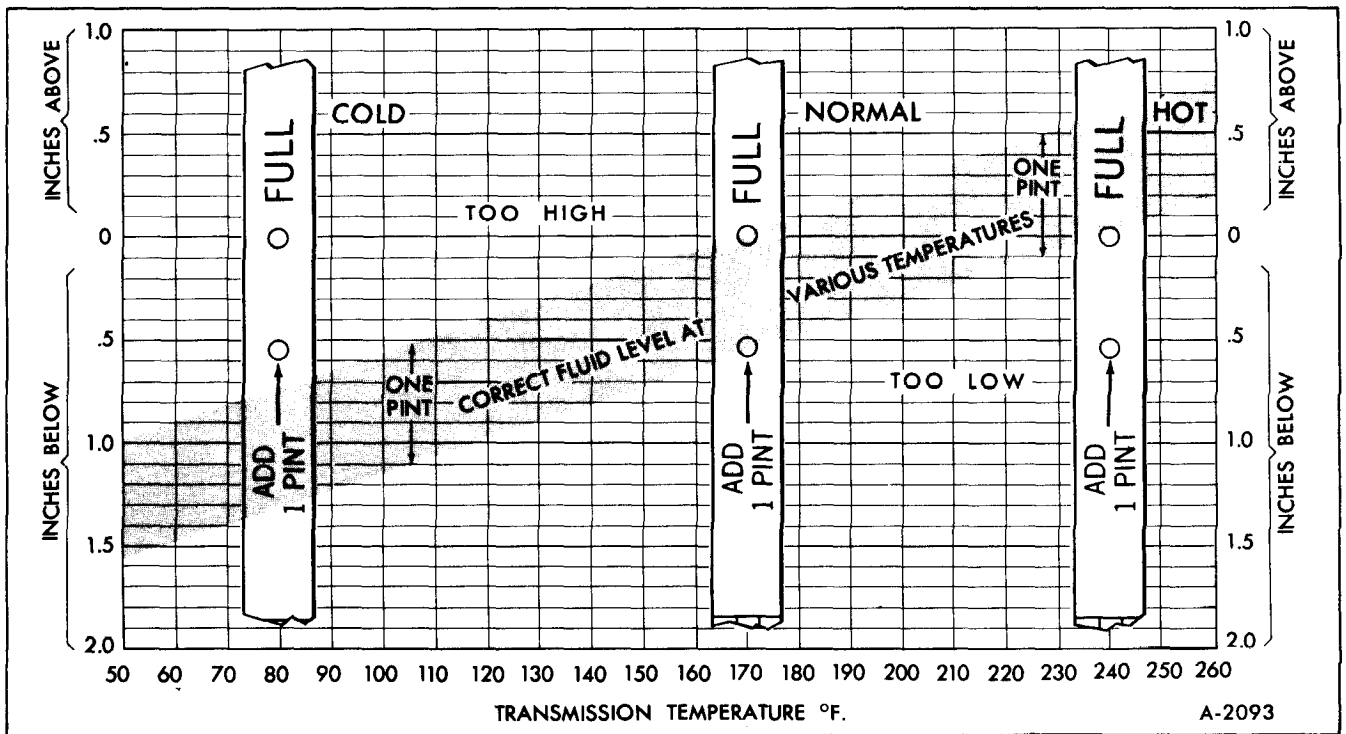

Figure 27-Transmission Oil Level
temperature is necessary, as proper fluid level at low operating temperatures will be below the "ADD" mark on the dipstick, Figure 27, and proper fluid level at higher operating temperatures will rise above the "FULL" mark. Fluid level must always be checked with the vehicle on level surface, and with engine running to make certain converter is full. To determine proper fluid level, proceed as follows:
10. Reduce engine speed to slow idle and check fluid level. Add fluid to bring to proper level, Figure 27.
4. Check fluid level and add additional fluid to bring to proper level, Figure 27.